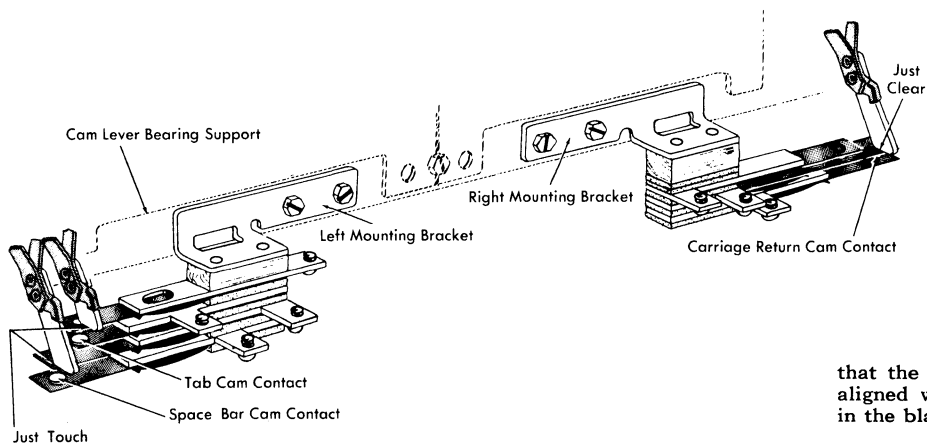

Figure 65. Functional Cam Contacts—Two Mounting Brackets
1. Position the left mounting bracket so that tab cam contact and the space-bar cam-contact operating straps just touch their respective nylon actuators at rest (Figure 65).